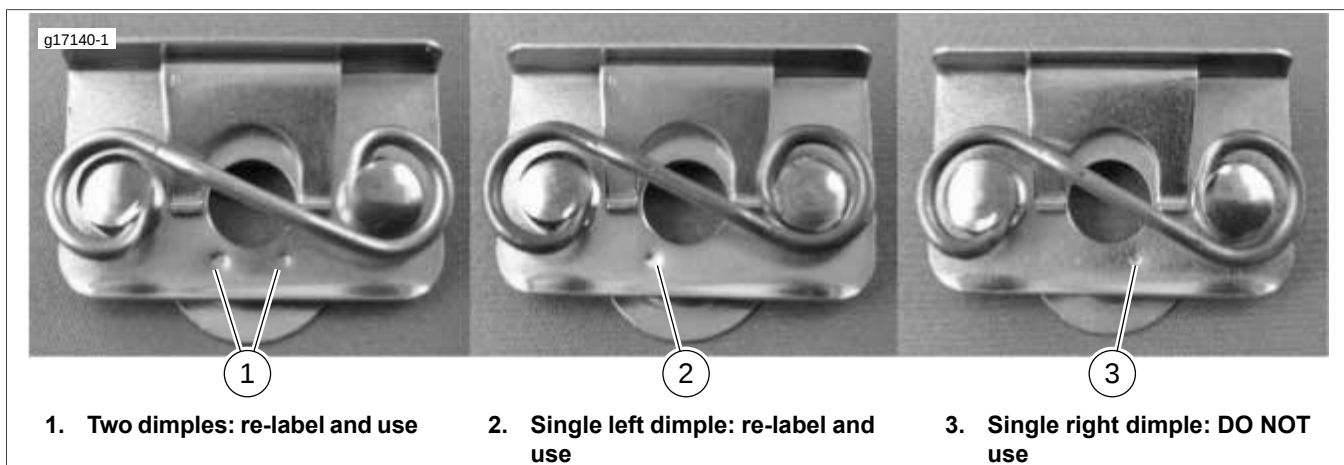

Figure 1. Saddlebag Stud Receptacles (shown inverted from installed position)
- b. See Figure 1. Inspect all later date code inventory of kit 91500084 as shown in Figure 1.